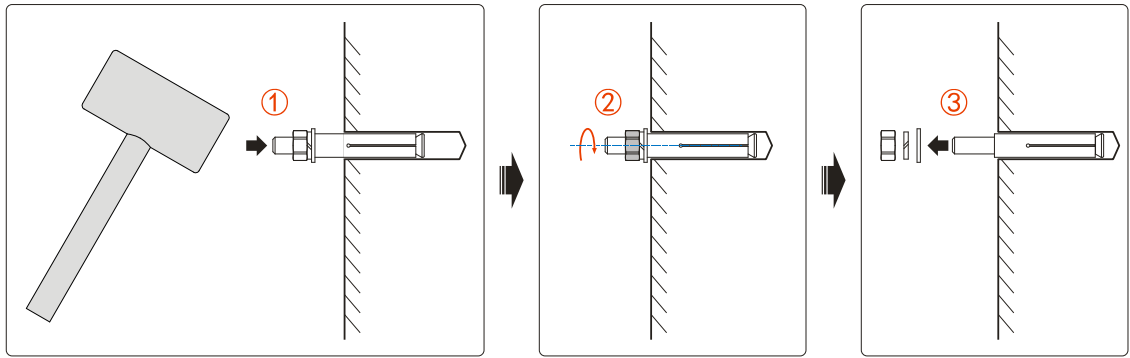

Figure3-22 Expansion bolt installation diagram
Step 4 Install expansion bolts. Install the four M10*80 expansion bolts into the installation holes, as shown in Figure3-22.